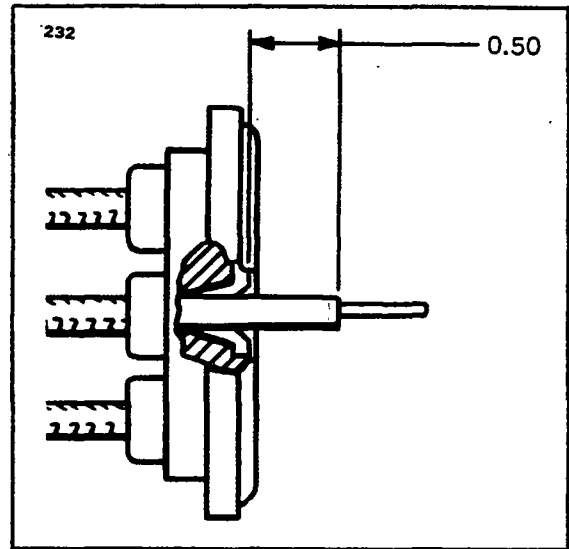

Figure 8A-28. Installing Grommet Over Lead Assemblies
14. Cut wire $\frac{3}{8}$ inch from top of grommet outlet (Refer to Figure 8A-28). Double wire over as shown in A of Figure 8A-30. Slide eyelet over doubled wire until it is firmly seated in recess of grommet outlet.